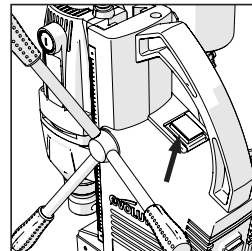

Fig. 6
- Operate the machines On/Off rocker switch **(Fig. 6)** to switch 'On' or to switch 'Off' the machines motor.